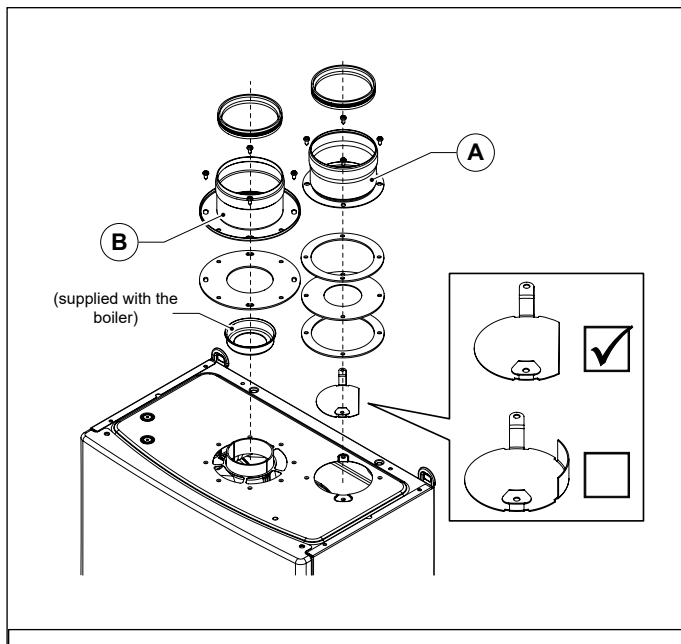

Fig. 12 OSDOPPIA13
- Install the specific air deflector (see Fig. 12 0SDOPPIA13).
- Install the specific air deflector (see Fig. 12 OSDOPPIA13).